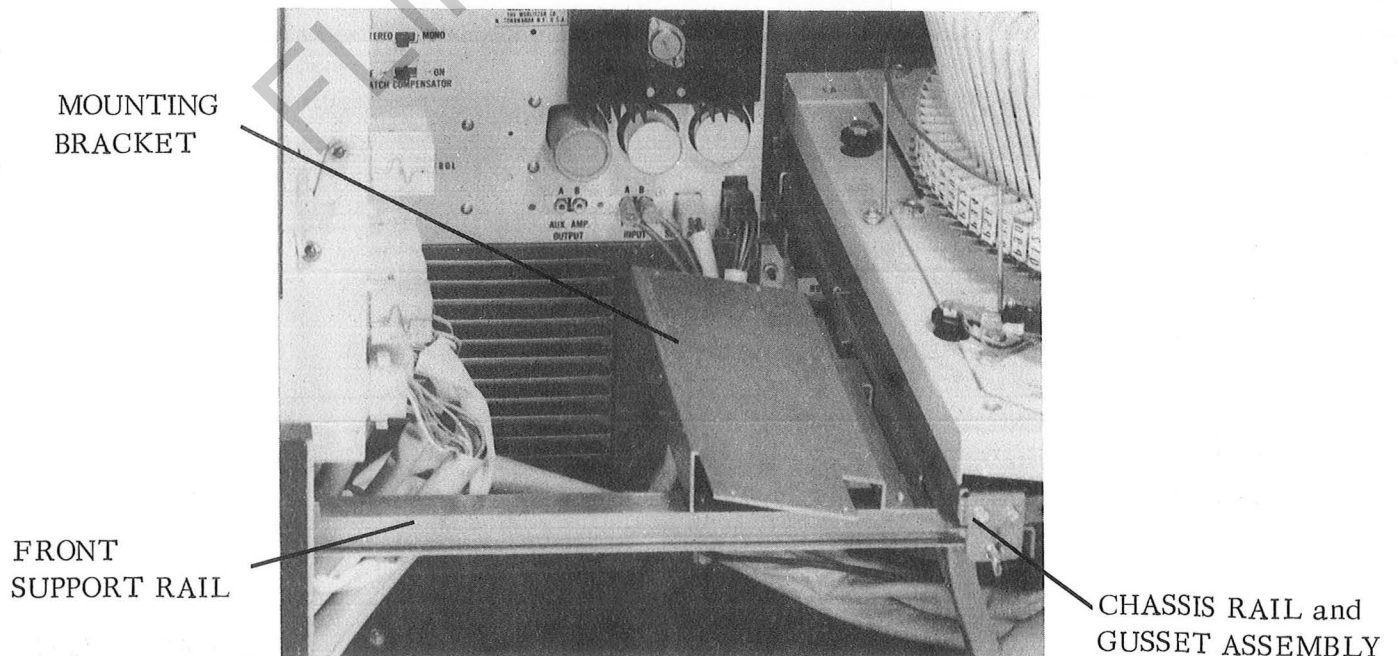

Figure 1.
5. Position MOUNTING BRACKET, Part No. 141084, on FRONT SUPPORT RAIL, as shown in Figure 1, and secure MOUNTING BRACKET to FRONT SUPPORT RAIL and CHASSIS RAIL and GUSSET ASSEMBLY, using three Screws, Part No. 77498-35. Tighten Screws securely.